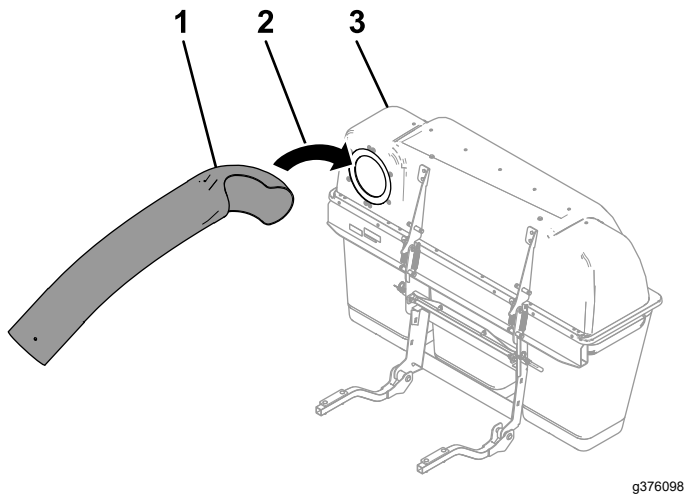

Figure 40
3. Install the upper tube into the bagger opening and pull it back out so that the hopper seal is protruding out (Figure 40).